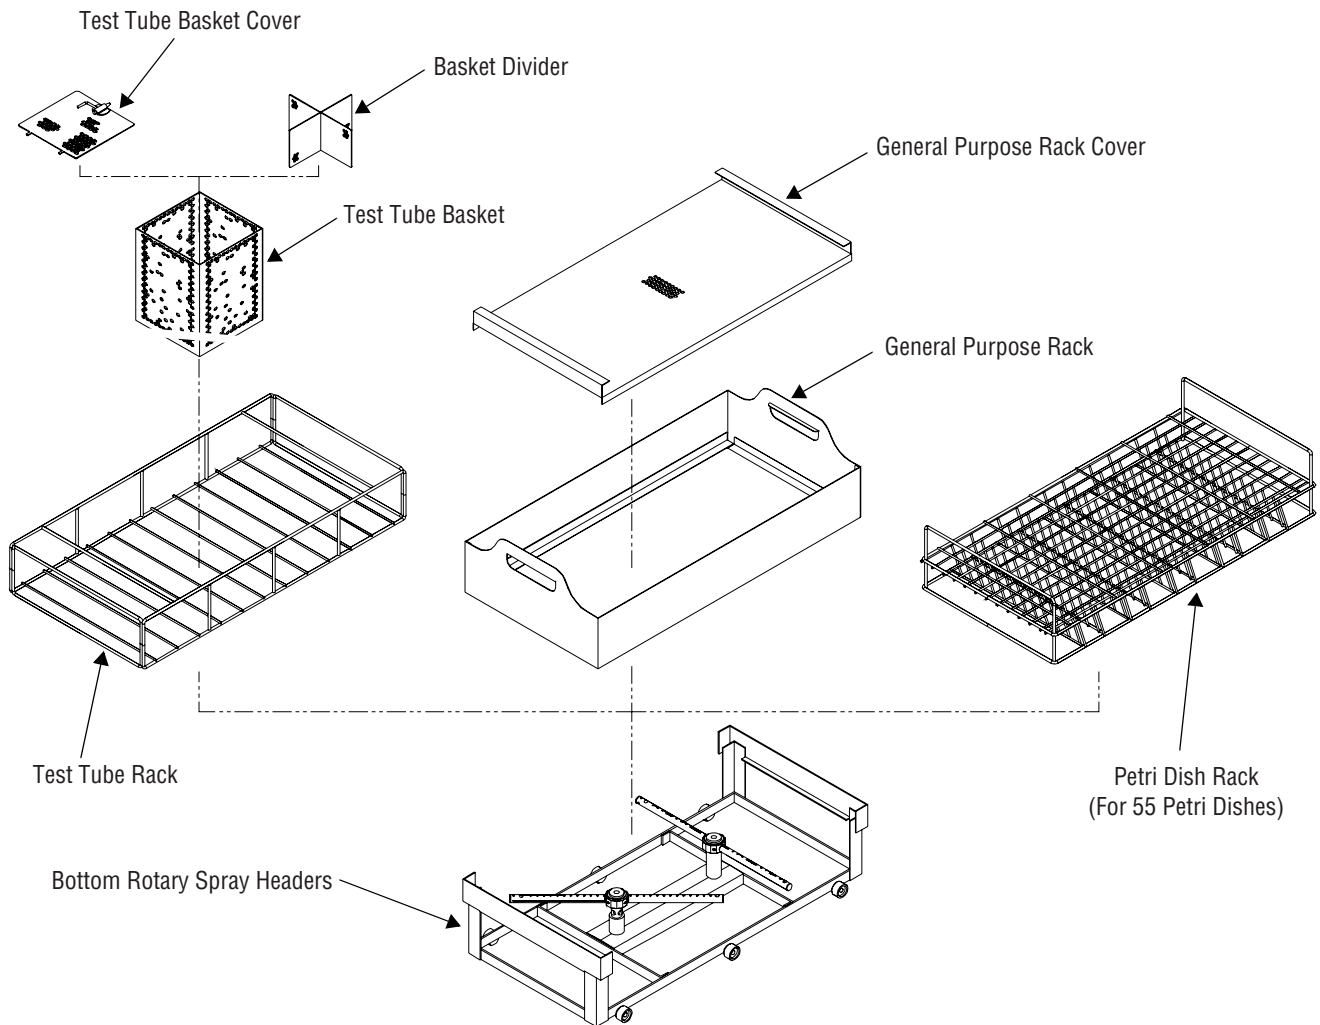

Figure 4-2. Bottom Rotary Spray Headers
- **Bottom rotary spray headers and rack** (see Figure 4-2): used with general purpose rack, tube rack and petri dish rack to provide load coverage from bottom.
General purpose rack (see Figure 4-2) – used with bottom rotary spray header to wash beakers and miscellaneous hardware. Beakers must be inverted when loaded in rack.
Test tube rack (see Figure 4-2) – used with bottom rotary spray header, basket, divider and cover to wash test tubes from 3/8 to 1-1/2" (10 to 38 mm) in diameter and/or beakers. Rack holds six test tube baskets.
Test tube basket and basket divider (see Figure 4-2) – Basket is used with bottom rotary spray header, test tube rack, cover and divider to hold test tubes and small miscellaneous glassware during washing. Basket divider partitions basket into four parts to support smaller or partial loads. Each basket holds approximately 120 test tubes. Test tubes must be inverted when loaded in basket.
Test tube basket cover (see Figure 4-2) – used with test tube basket to hold test tubes in place while inverted in basket.
Petri dish rack (see Figure 4-2) – used with bottom rotary spray header to wash petri dishes. Rack holds up to 55 petri dishes up to 4.0" (102 mm) in diameter by 5/8" (16 mm) deep.